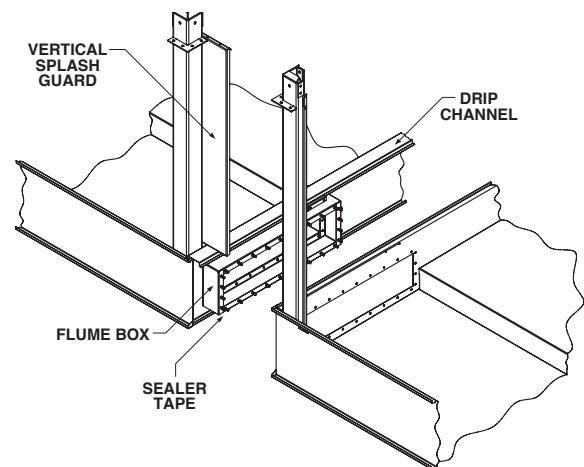

Figure 5 – Equalizer Flume Connection, 12' (3.6 m) Wide Models
2. Clean the flanges on the equalizer flume on the end to be field connected. Apply a layer of sealer tape on the flange centered between the hole centers and the outside edge. Remove paper backing strip from the sealer tape. (See Figure 5.)
9. Place the vertical splash guard in the bend of the vertical supports. Attach the vertical splash guard using 5/16" (8 mm) tappers. For stainless steel construction, attach the vertical splash guard using 5/16" (8 mm) stainless steel nuts and bolts. (See Figure 5.)